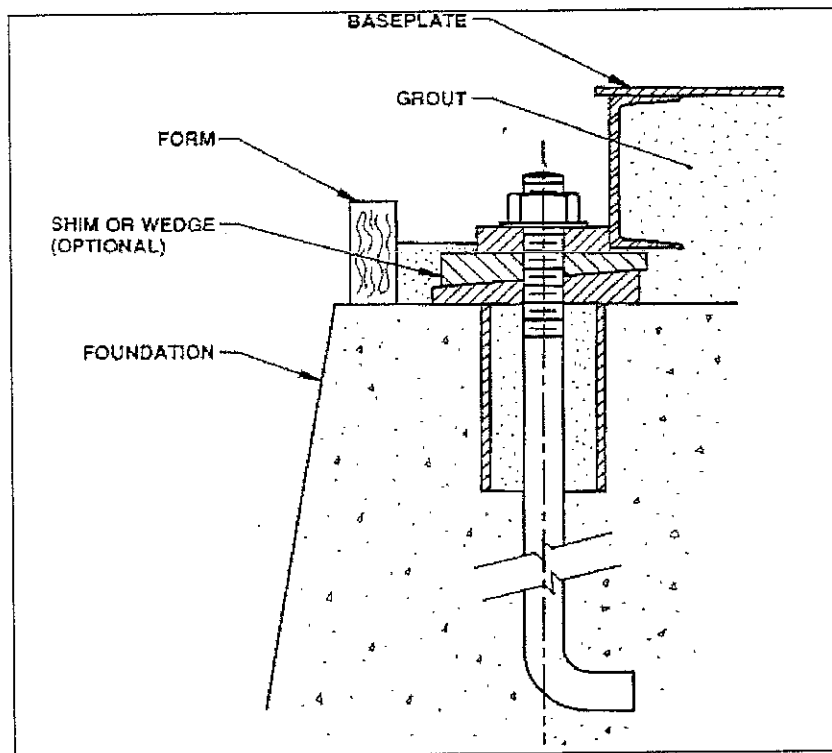

Figure 3
1. Build wooden forms around foundation and saturate the top surface of the foundation with water for at least six (6) hours prior to grouting. Remove free water with hose or rags just before placing grout. Remove water from anchor bolts with rags or a siphon.
2. The method of forming is dependent on the contractor's selection of a grout placing procedure that affords rapid and complete filling of the spaces to be grouted, and that keeps the grout in full contact with the underside of the baseplate until the grout has hardened (Figure 3).